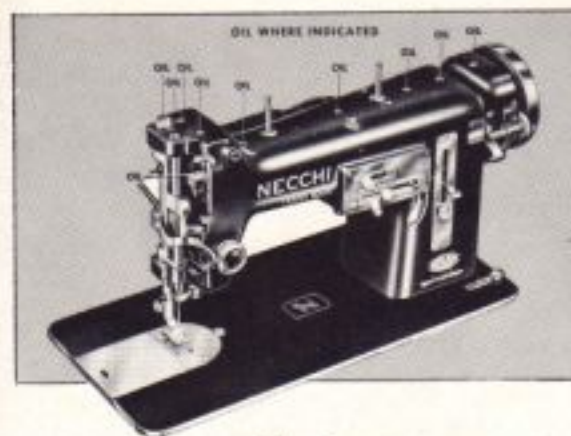

Fig. 2
a. The pointers in Fig. 2 indicate the small oil holes into which one drop of oil should be put whenever the machine is used.